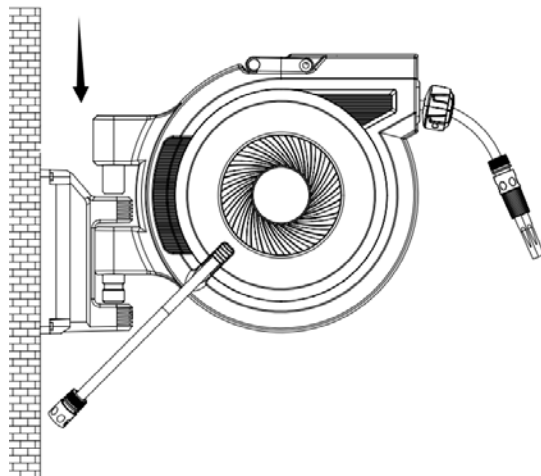
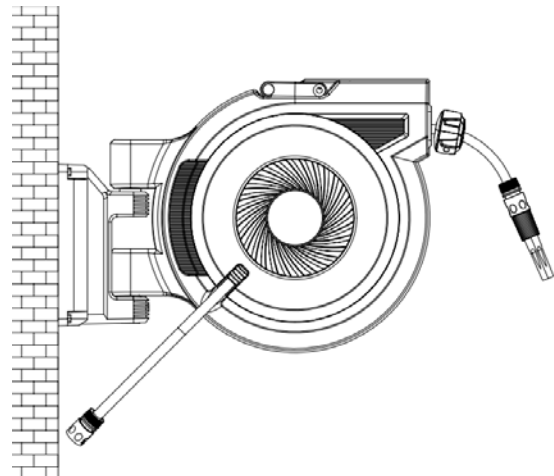

Fig.3
Fig.4
5. Connect the reel to the mounting bracket.(Fig.3)(Fig.4)